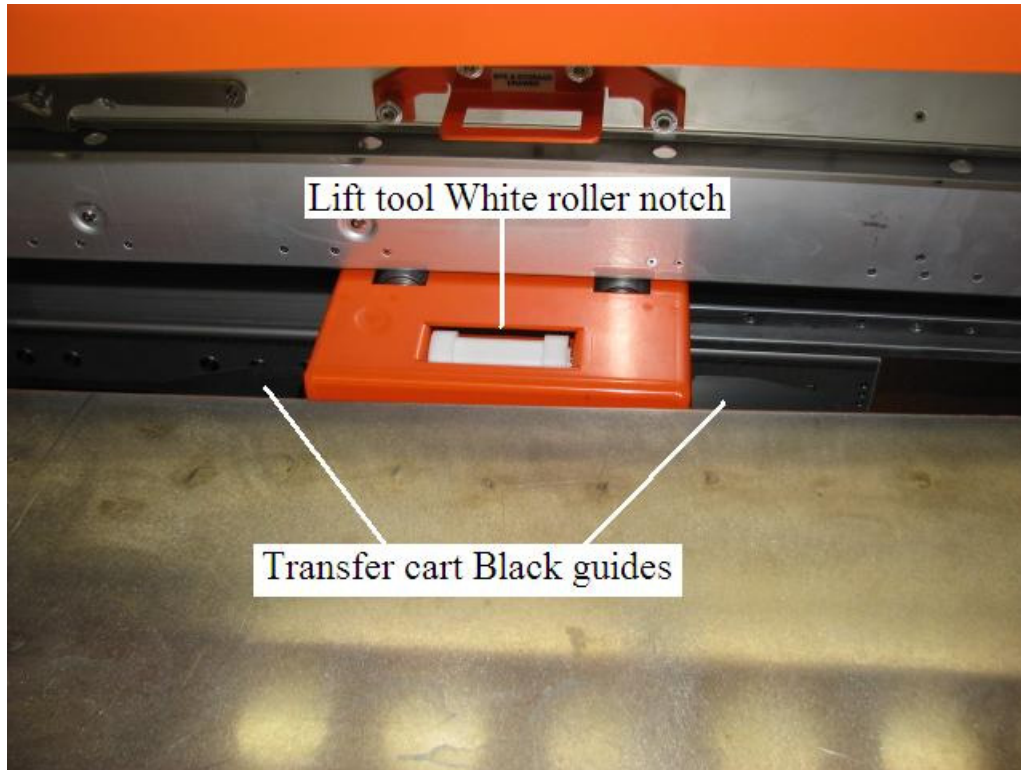

**Figure 37 Remove transfer cart guard rails**
73. Remove transfer cart guard rails. Using 5 mm Hex tool P/N 74Y0986 (shipped in the Hand Tool Kit) remove the eight screws that retain the transfer cart guard rails (see Figure 37).